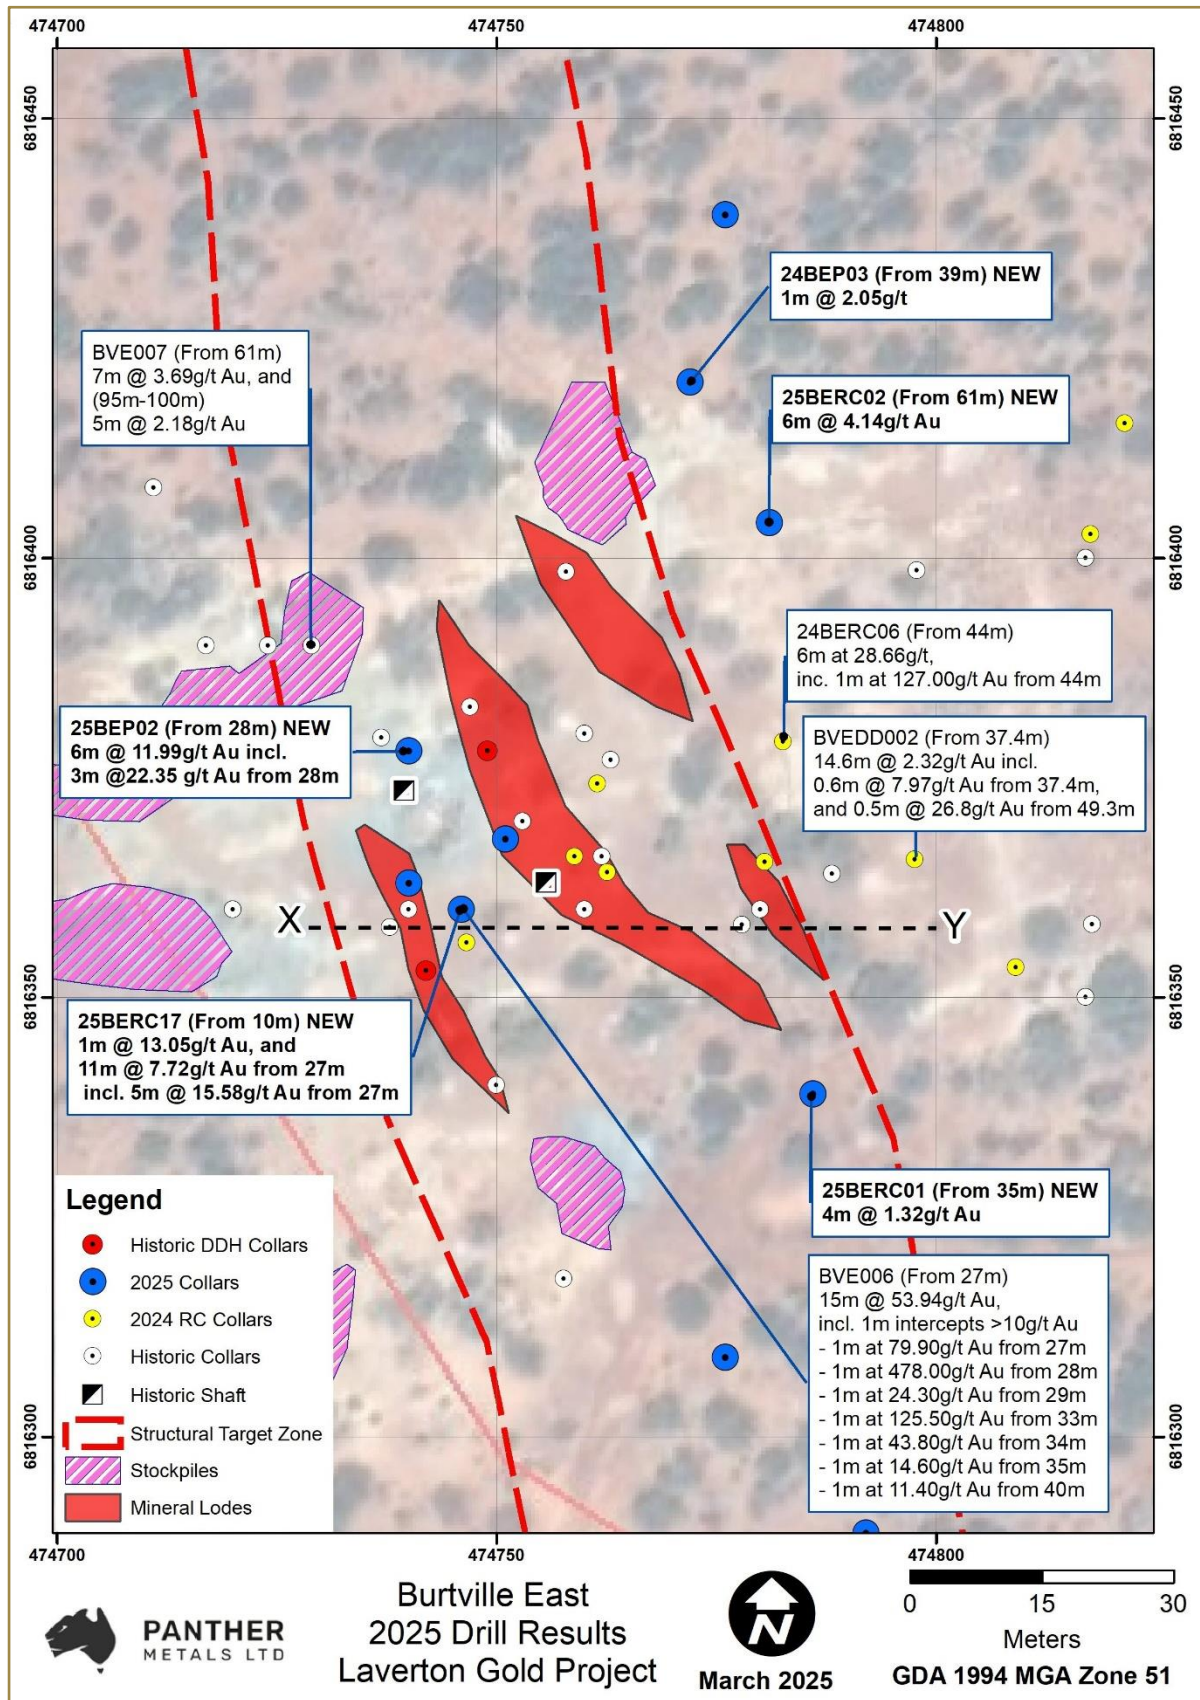

Figure 1: Latest 2025 drilling results.
**Figure 2:** Burtville East 2024 mineralisation interpretation, cross-section width of 50m, along X-Y (see plan Figure 1) showing the current model and the 2025 drill intercepts (in yellow).